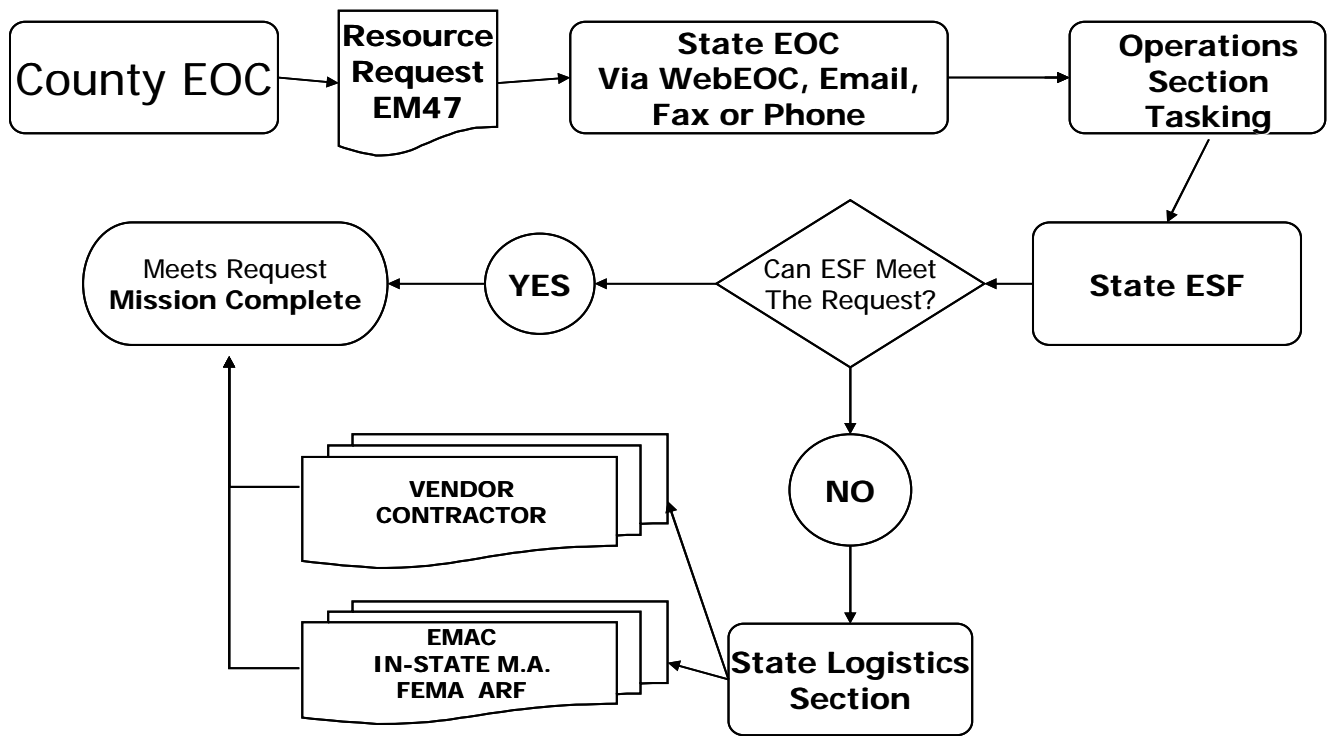

Figure 2
- b. Upon receipt of the request for resources form, the state EOC attempts to locate the requested resource using the following process (see figure 2):